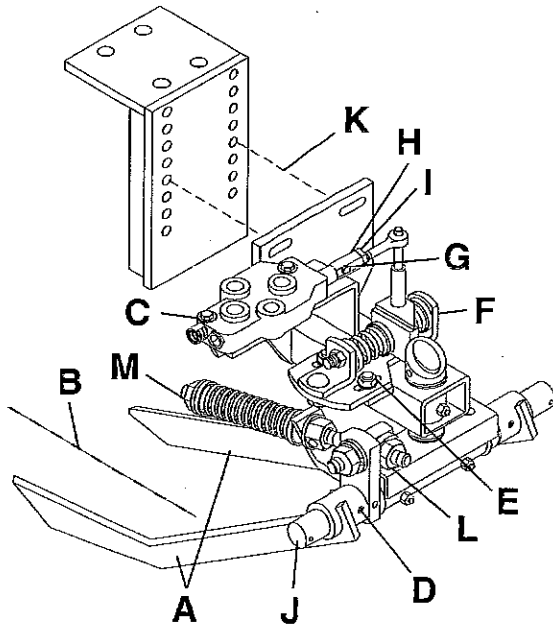

Figure 2.08: Rowfinder.
The optional rowfinder helps keep your harvester on the rows. The feeler arms (A) (Figure 2.08) rest astride the row (B) and follow the line of beets - sensing any changes in the direction of the row or the position of the harvester. Sideward movement of the feeler arms actuates the hydraulic valve (C), which controls oil flow to the rowfinder steering cylinder.
For this adjustment, refer to Figure 2.08. The feeler arms (A) should be set so the largest beets will just pass through the opening, between the tips, while just touching each arm. To adjust the arms, remove the spring pins (D), set the arms to the appropriate width, then install the spring pins.
Refer to Figure 2.08: The horizontal shaft (J) in the rowfinder must be parallel with the front of the har-
To change the rowfinder height by more than 1", remove the four (4) bolts (Figure 2.08-K) attaching the rowfinder frame to the support plate. Bolt the rowfinder to the holes that provide the desired operating height. Tighten the bolts.
NOTE: For less than 1" height adjustments, raise or lower the feeler arms by adjusting nuts (Figure 2.08-L).